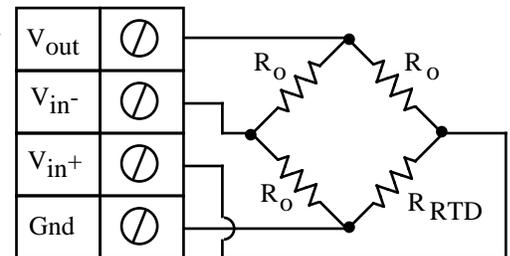

Fig 3.14 - Temperature Measurement (RTD) Bridge Circuit
Temperature measurement using an RTD in a bridge circuit involves wiring an RTD as one leg of a full-bridge circuit, applying a voltage across the bridge, and measuring the voltage across the two intermediate bridge nodes via a pair of instruNet  $V_{in+}$  and  $V_{in-}$  input terminals. The excitation voltage for the bridge is supplied by either the instruNet  $V_{out}$  terminal or by an external voltage source. In figure 3.14  $R_{RTD}$  is an RTD and  $R_o$  is a resistor of known, similar, value. instruNet calculates the value of the temperature, returning degrees Celsius engineering units, using the equations:
8. Wire your voltage source per figure 3.14, and refer to the steps at the beginning of this chapter for more information on how to set up your sensor. To reduce noise, 0.001 seconds of integration is often helpful (i.e. set the Integrate field in the Hardware setting area to 0.001).5,10